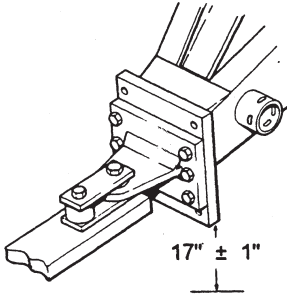

Figure 1-8 Hitch
2. The front drawbar hitch on the baler can be adjusted up or down or inverted 180° (see Figure 1-8) to achieve proper alignment with the tractor drawbar. The distance from the bottom of the baler hitch mount to the ground should be $17" \pm 1"$. Connect using quantity 8 of 5/8" x 2 1/2" Grade 8 bolts, lock washers and nuts. Torque nuts to 240 ft. lbs.